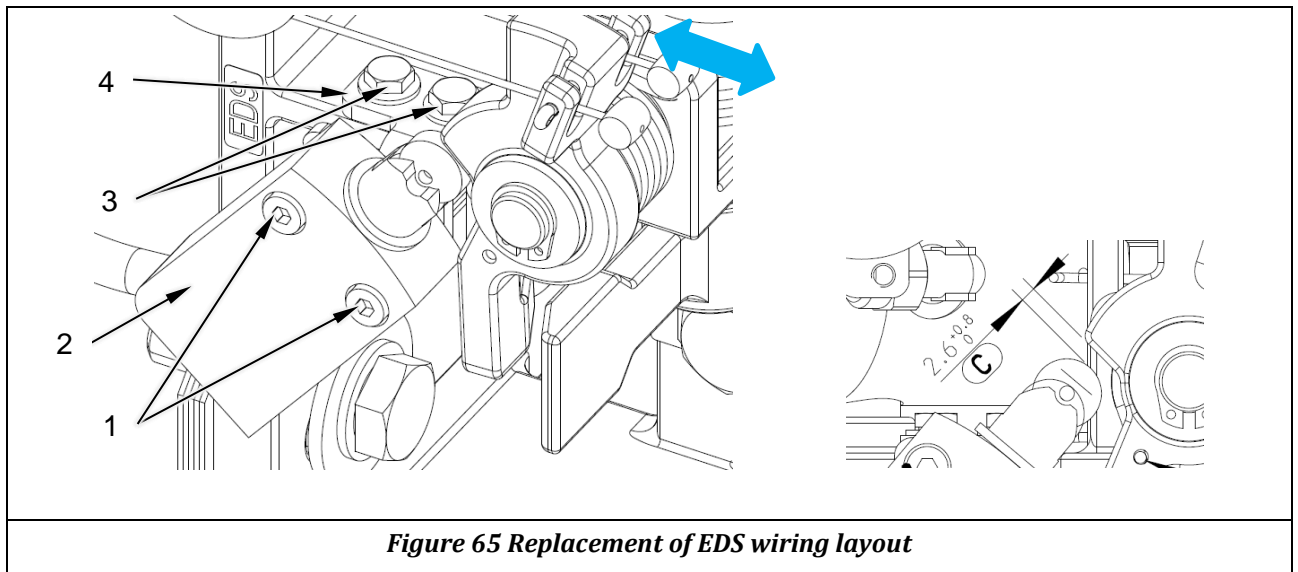

Figure 65 Replacement of EDS wiring layout
- 3) Loosen the screws (item 1, Figure 65)
- 4) Dismount the EDS (item 2, Figure 65)
- 1) Install the switch (item 2, Figure 65) with 2 sets of screws,
- Loosen the screws (item 3, Figure 65)
- Move the bracket (item 3, Figure 65) to make the gap between switch roller and cam as $2.6^{+0.8}mm$
- Tighten the screws (item 3, Figure 65) with torque 2.7Nm, apply Loctite 243 and tightening mark